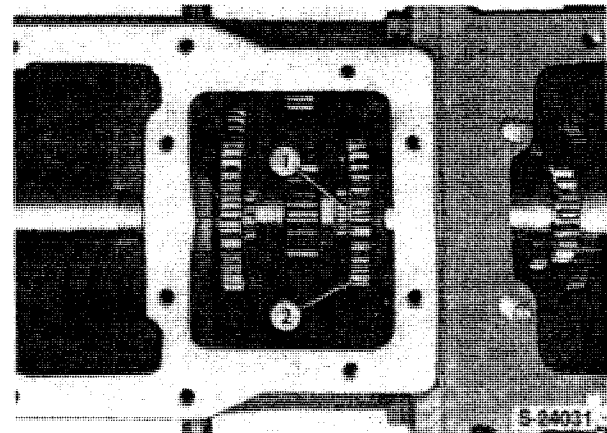

Figure 26
9. Remove the snap ring (1) and drive gear (2), Figure 26.